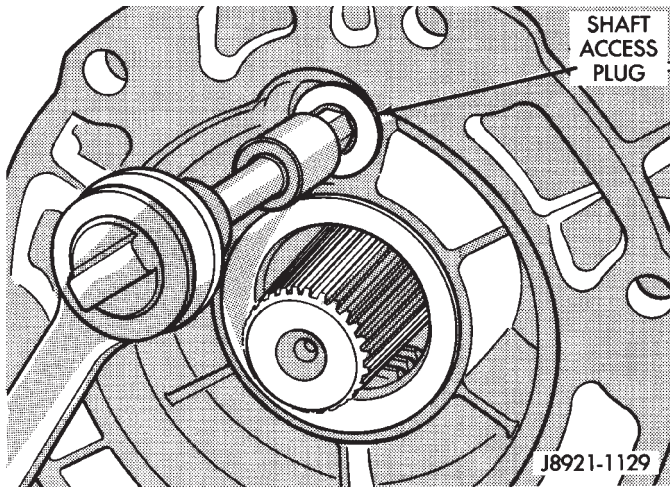

Fig. 126 Access Plug Installation
(27) Install and tighten shift arm shaft access plug to 19 N·m (14 ft. lbs.) torque (Fig. 126).